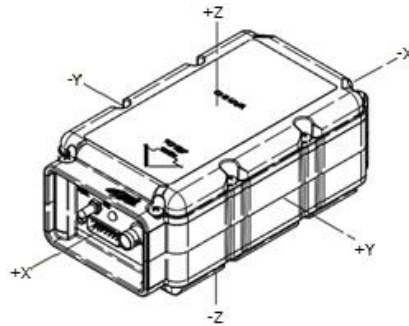

Figure 28 ELT Orthogonal Axes
- 1) The ME406P ELT may be used in helicopters, because it is equipped with a 5-axis G-switch module in addition to the usual primary G-switch, which is oriented to the direction of flight. See Figure 28 ELT Orthogonal Axes.